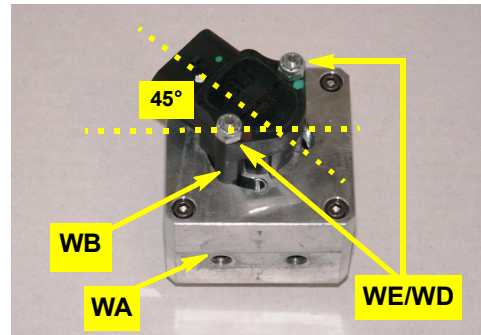

Figure 1a: Prepared WAS housing/connector
- a. Using the provided hardware **WE** (nuts) and **WD** (bolts - not visible), attach the WAS wire connector **WB** to the WAS housing **WA**. Install the bolts up through the bottom of the housing. The WAS wire connector **WB** can be mounted 45° to any of the WAS housing **WA** sides (Figure 1a).